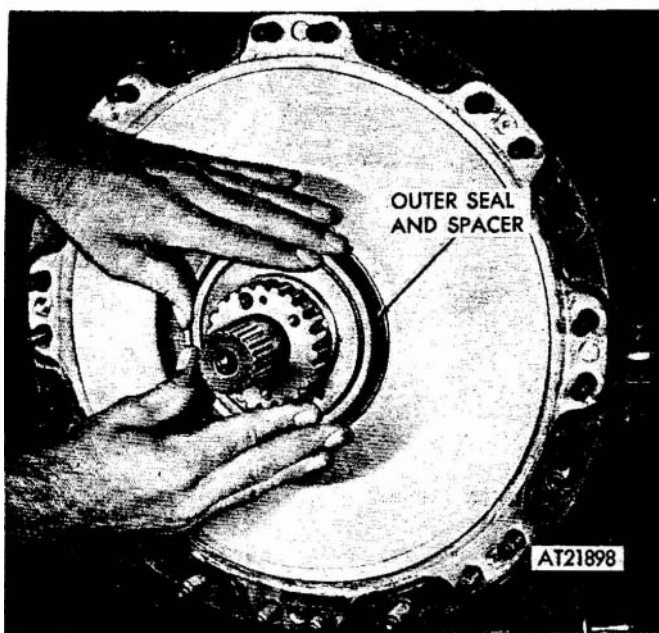

Figure 2-245. Outer seal and spacer installation.
(11) Install outer seal and spacer (fig 2-245).